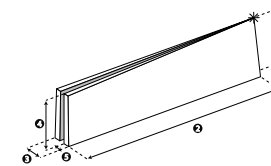

Figure 9: Detection pattern
**Note:** Range refers to number 2 in Figure 9.